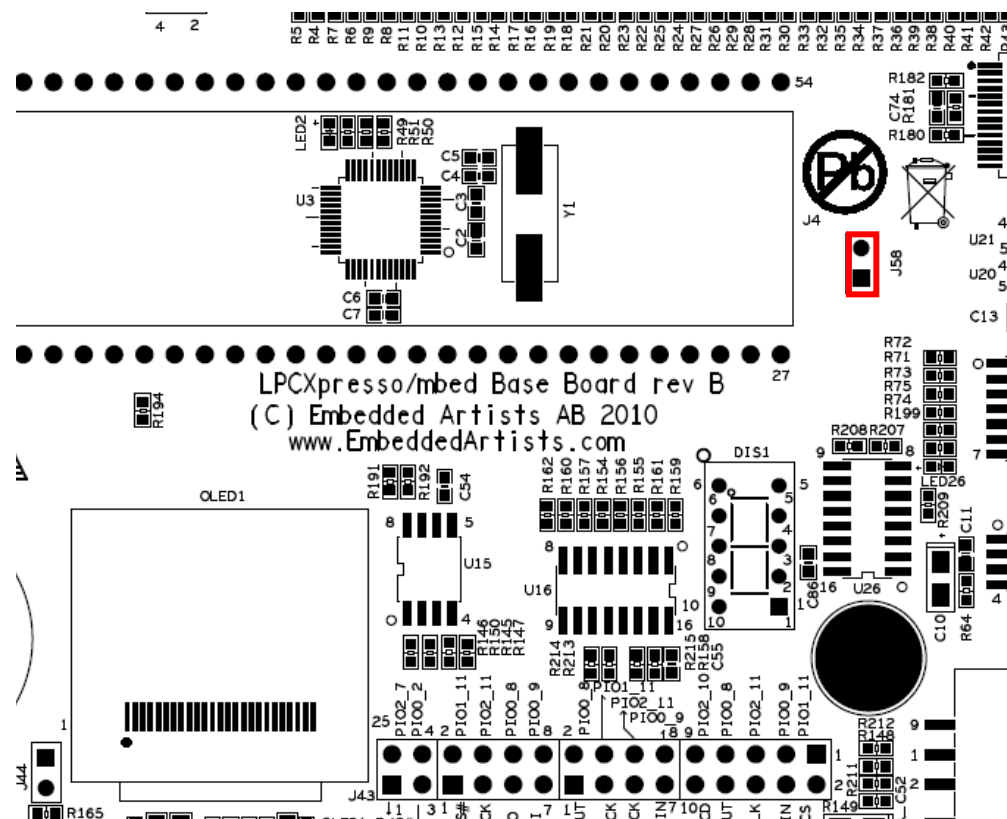

Figure 56 – Jumper Setting, J58: OLED Control for mbed
- J58 must be inserted when accessing the OLED in SPI mode. This is because the signal GPIO_35 is not available on the mbed module (the signal is used as D/C input signal for the display). Insert J58 and signal GPIO_2-MISO can be used for control. Note that signal naming above follow LPCXpresso base board naming, which is not the same naming as the mbed module has. See Figure 56 for details where to find J58.